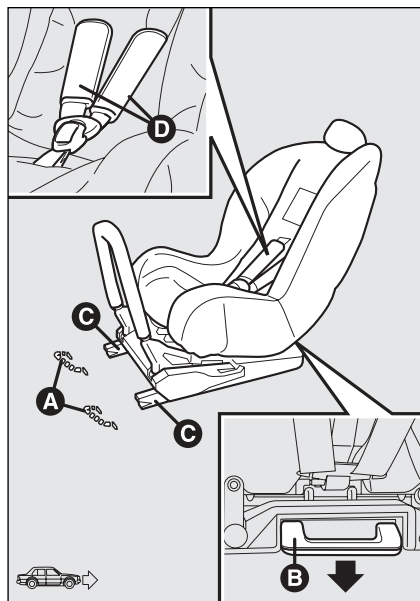

fig. 15
For children of the 0, 0+ weight group (babies up to 13 kg), the child's seat is facing backwards and the child is restrained by the child's seat belts **D**-fig. 15.
- ☐ check whether the release lever **B**-**fig. 15** is at rest position (inward);